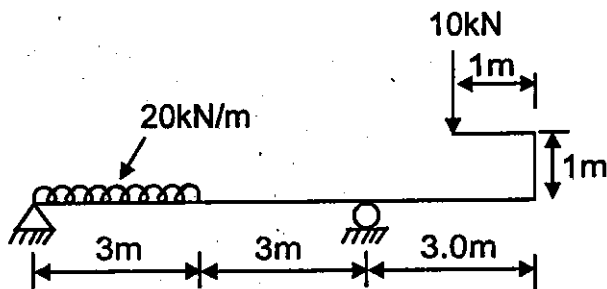

Fig. 2
- (c) Draw shear force and bending moment diagrams for the beam shown in Fig. 2. 20